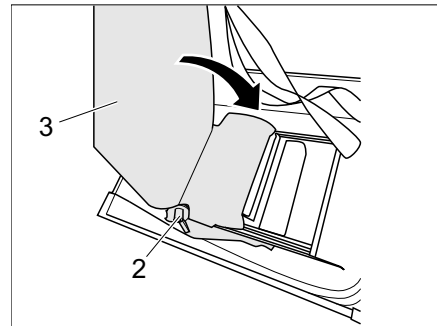

Fig. 224 Stow the seat back in the bench
- Engage lever 1 (Fig. 224,2) and fold the seat back (Fig. 224,3) inwards.